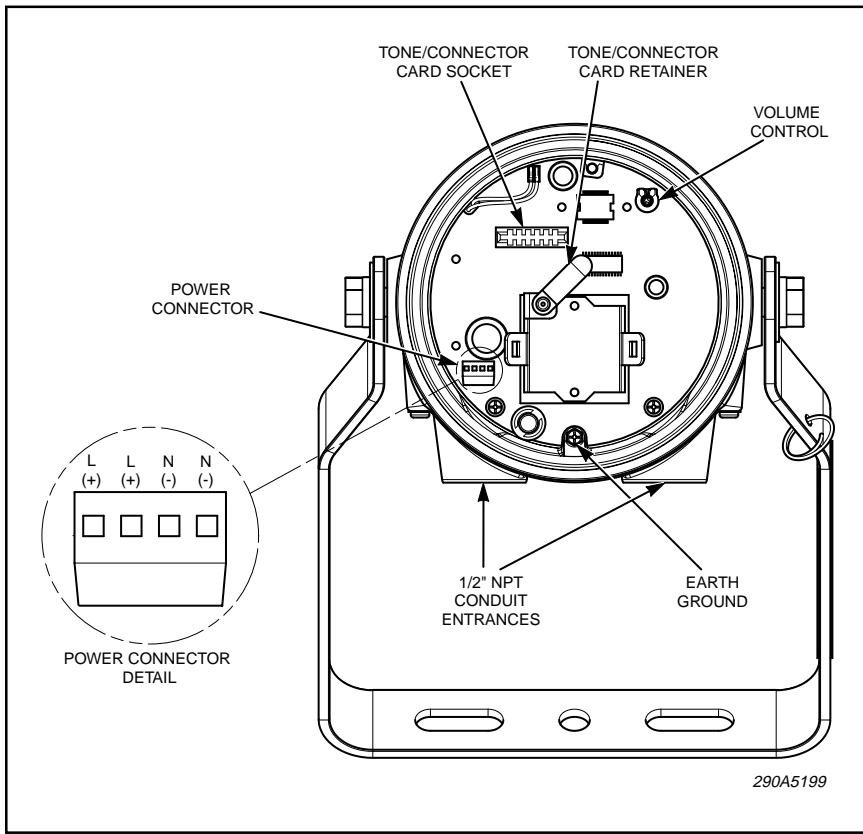

Figure 2.
The speaker can be mounted on any relatively flat surface capable of supporting the speaker's weight. Conduit connections can be made to the 1/2" NPT threaded openings at bottom of the housing (see figure 2).
a. Plug the desired tone card (purchased separately) into the socket as shown in figure 2.
c. See figures 2 and 5. Connect the power source positive (+) lead to the terminal block labeled (+). Connect the power source negative (-) lead to the terminal block labeled (-). Connect the additional (+) and (-) terminal blocks to the next unit or to an end of line device.
a. Plug the desired connector card (purchased separately) into the socket as shown in figure 2.
- c. See figures 2 and 6. Connect the power source positive (+) lead to the terminal block labeled (+). Connect the power source negative (-) lead to the terminal block labeled (-). Connect the additional (+) and (-) terminal blocks to the next unit or to a power supervision relay.
- A. After installation is complete, be sure to test the system to verify that each amplified speaker operates satisfactorily. If it is found that the unit is too loud for its location, an internal volume control can be adjusted. Remove the housing cover and insert a slotted electricians' type screwdriver into the volume control shown in figure 2. Gently turn the control counter-clockwise to decrease the sound output to the desired loudness. Reinstall the housing cover.